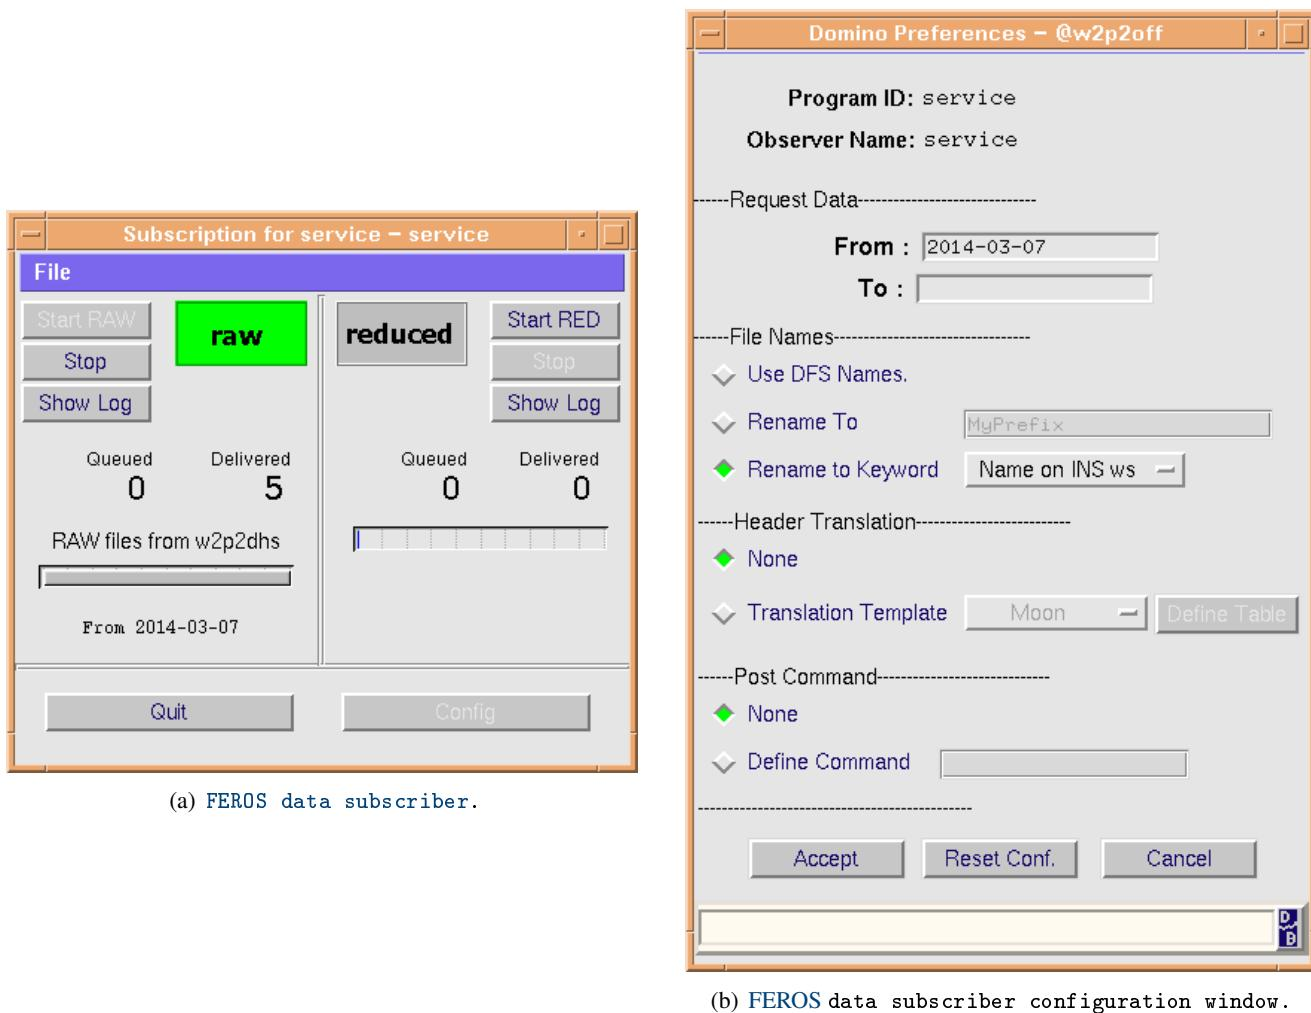

Figure 10.3: FEROS data subscriber.
- A. Stop **data subscriber** and **DRS** at the **DRS** computer (Fig. 10.3(a), p. 85).
- C1. Left click start **data subscriber** and configure it (Fig. 10.3(b), p. 85).